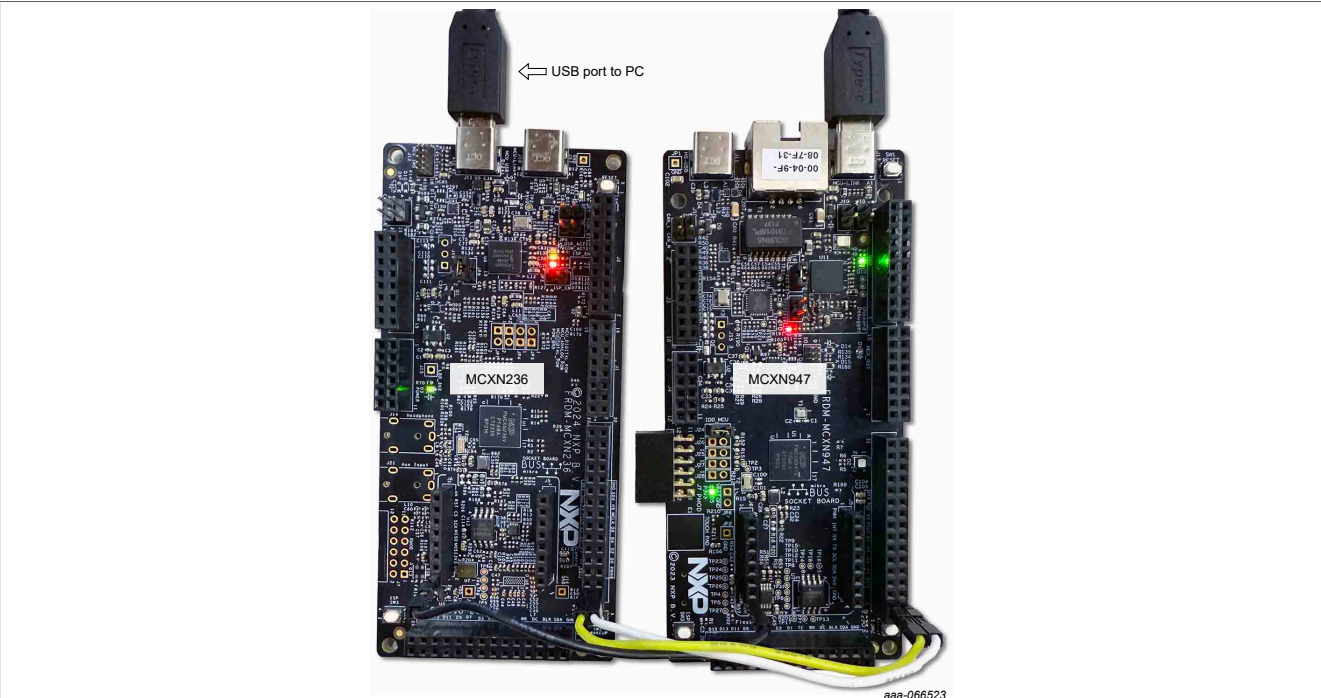

Figure 3. MCX N947 optical module CMIS over I3C demo hardware setup
Figure 3 shows the physical hardware setup of the MCX N947 CMIS-over-I3C demo, including the interconnection between the FRDM-MCXN236 and FRDM-MCXN947 boards.
1. Ensure that the hardware setup is completed, as described in Table 5 and Figure 3.